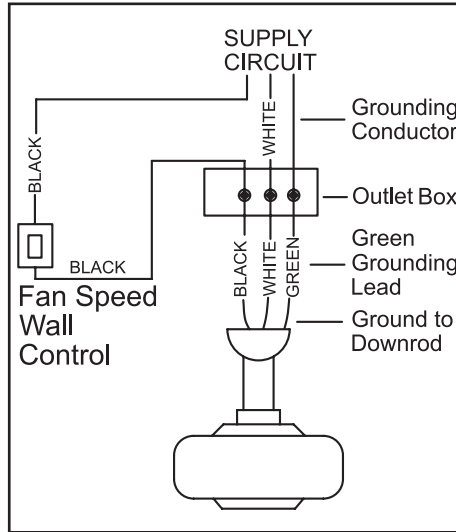

Figure 8
Step 1 Connect the fan supply (black) wire to the black wire from the wall control as shown in Figure 8.